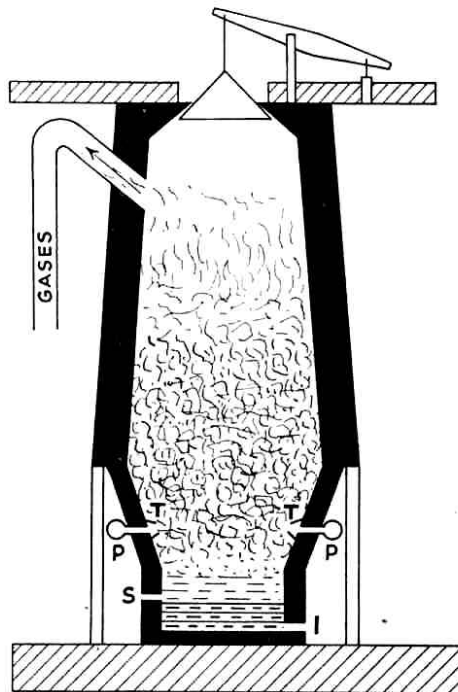

Fig. 1. Diagram of Blast Furnace
The accompanying diagram (Fig. 1) gives a good idea of the construction of a typical blast furnace. The circular shaft, shaped as shown, is lined with firebrick which will stand an enormous amount of heat. The top of the shaft is closed by a conical stopper called the "bell." This stopper may be lowered to allow a charge of iron ore, limestone or coke fuel to be shot into the furnace. The blast pipe (P) which runs round the hearth is also shown, together with two of the nozzles called "tuyères" (pronounced "tweyers") by which the blast is conveyed to the interior of the furnace. These tuyères have to withstand a terrific heat, and to prevent them from melting they are surrounded by pipes through which cold water constantly circulates, or water-jacketed as it is called. The diagram also shows the two openings (S) and (I) through which the slag and the molten iron respectively are drawn off. Finally, there is an opening near the top of the shaft to lead off the hot gases produced.